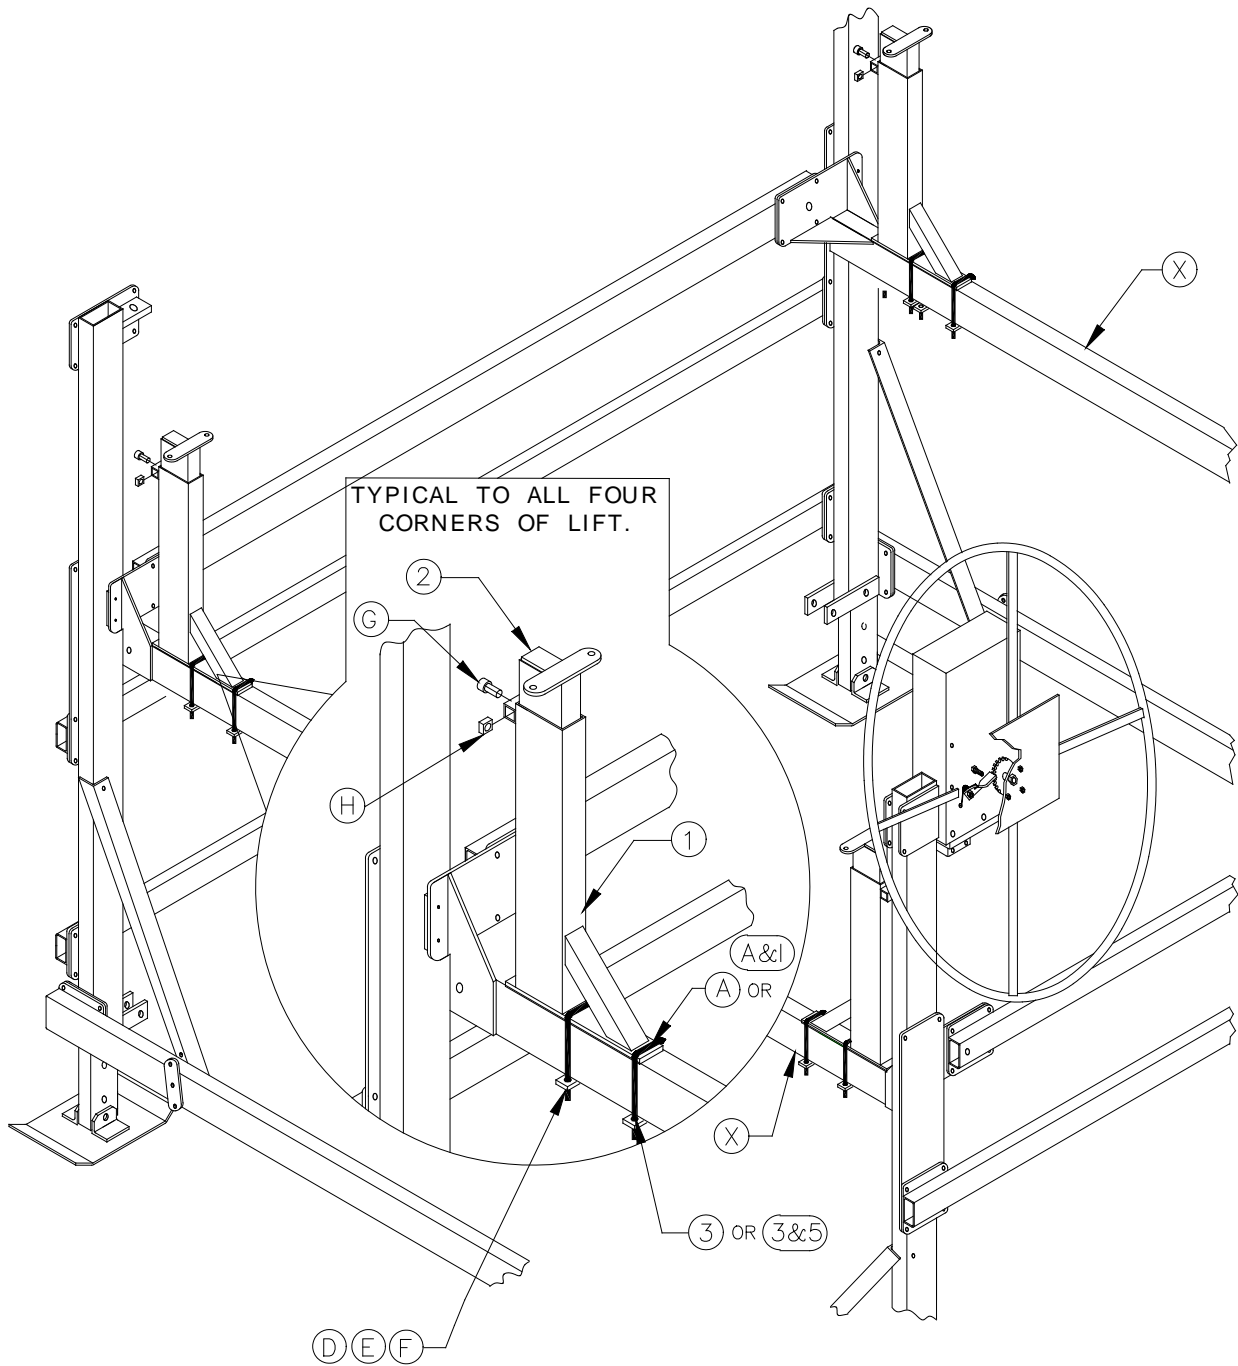

Figure 2-1.
The part reference letters used in the subassembly drawings of sections 2.3 through 2.5 are the same as those shown in Figure 2-1 through Figure 2-4 and listed in the parts lists of Chapter 4.
1. (Refer to Figure 2-1) Position a VL HD Guide On Support (1), on the Load Tube (X), with the diagonal brace facing the center of the Load Tube. Insert two 3/8” square bend U-bolts (A) or (A & I), one over the end of the support mounting plate and, the other square bend u-bolt is then inserted through the triangular space closest to the vertical support tube. Place a two hole plate (3) or (3 & 5), onto each u-bolt and loosely attach a 3/8” flat washer (D), then a 3/8” lock washer (E), and finally a 3/8” hex nut (F), to each side of both u-bolts. **(DO NOT TIGHTEN AT THIS TIME)**.
2. Position a VL Guide On HD Upper Tube assembly (2), inside the VL Guide On HD Support tube. Insert a 1/2” square nut (H), into the square housing on the support assembly. Hold the nut in place by threading a 1/2” Hex Head Cap Screw (HHCS) (G). **(DO NOT TIGHTEN AT THIS TIME)**. Repeat steps one and two for the other three support assemblies.
1. (Refer to Figure 2-1, & 2-4) Loosen U-bolt nuts (F), on load tubes to adjust distance between Guide Ons (4), (6), or (7), to best suit boat width and wave conditions. Retighten the load tube nuts at this time.